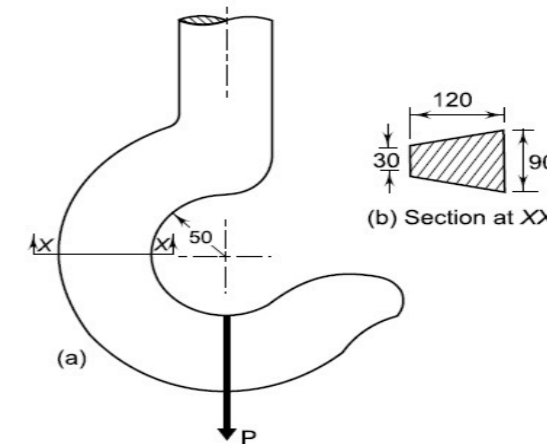

Fig. 11.(a) - All dimensions in mm
- 11. (a)** A crane hook having an approximate trapezoidal cross-section is shown in Fig. 11.(a). It is made of plain carbon steel 45C8 ($\sigma_y = 380 \text{ N/mm}^2$) and the factor of safety is 3.5. Determine the load-carrying capacity of the hook. **(14)** **1** **3**